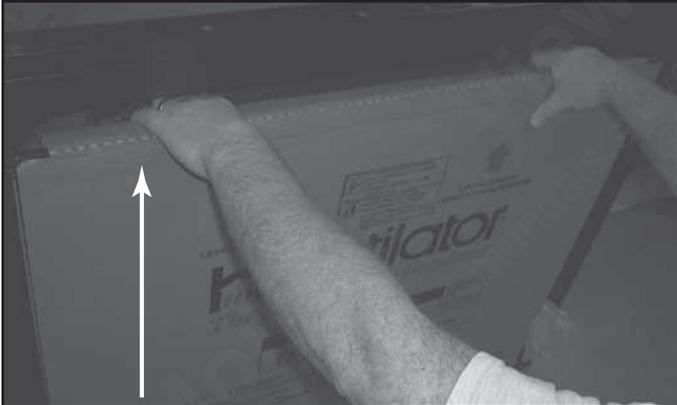

Figure 15.2 Lift up on Screen Package
- Grasp the top of the screen package and lift up to remove. See Figures 15.2 and 15.3.